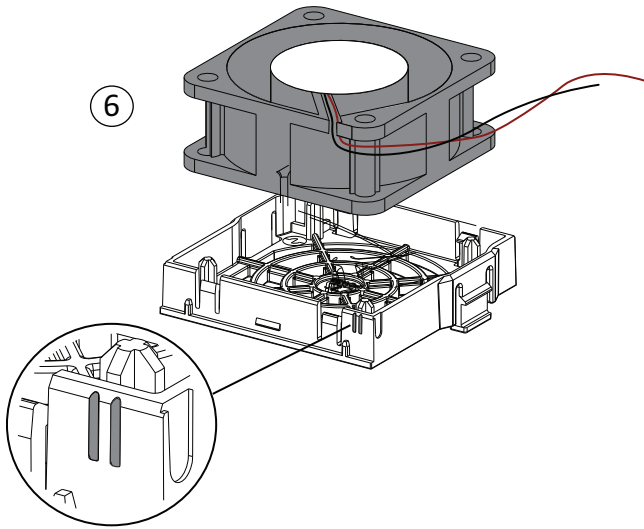

Fig. 56 — Install New Fan into Fan Cover
6. Install the new fan into the fan cover. Make sure that the air flow is in the correct direction. The air flows in from the bottom of the drive and out from the top of the drive. As shown in the following figure, the side with the fan power cable is aligned to the double bars sign on the fan cover. See Fig. 56.